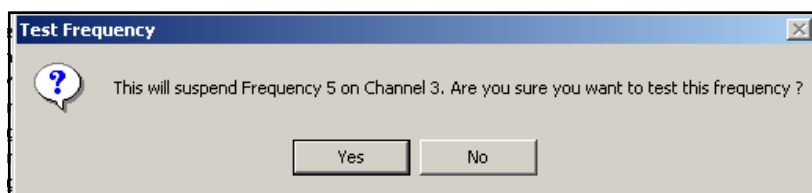

Figure 54: Test Frequency Prompt
2. A window similar to *Figure 54* below should appear, asking if you want to test the Frequency. Click on **Yes**.